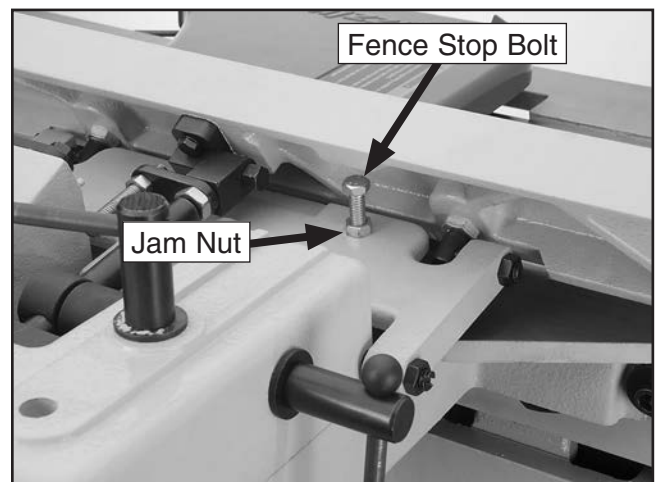

Figure 66. 45° outward fence stop jam nut.
2. Loosen the jam nut on the 45° outward fence stop bolt (**Figure 66**).